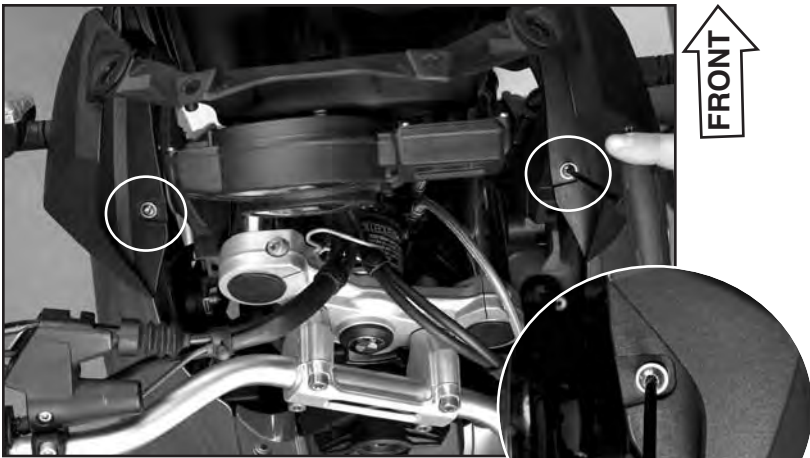

Figure 8
1. Remove the right BMW Binding Head Screw (46 637 653 066) from Cockpit Trim Panel. Figure 8 and Diagram b (T25 Torx)